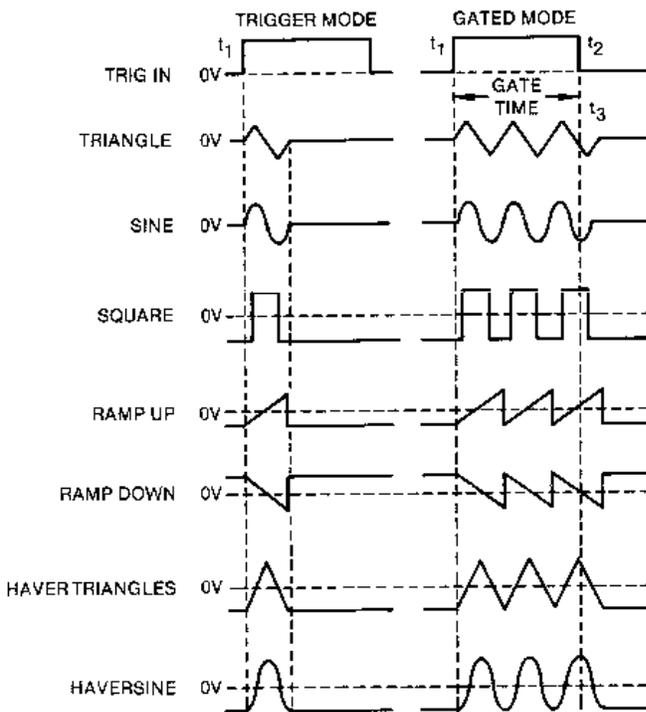

Figure 3-3. Output Waveforms
**16 AM In (600  $\Omega$ ) Connector.** This connector inputs an ac signal for amplitude modulation (AM) or for Suppressed Carrier Modulation (SCM). For AM operation, a  $\pm 5$ V input will modulate a carrier 100% (amplitude 5 Vp-p and ext AM 10 Vp-p). The AM scale factor depends on the output attenuator range. For SCM operation, the zero switch will set the carrier dc amplitude to zero volts.
**18 Trig In (TTL) Connector.** This connector accepts a programmable or negative TTL level input ( $t_1$ ) to trigger or gate the generator output as shown in figure 3-3. When triggered, the generator produces one complete cycle for each trigger input. When gated, the generator produces continuous cycles until the gate signal ( $t_2$ ) is removed. The last cycle started is always completed ( $t_3$ ). The negative-going edge of the TTL input will end gated operation.
**19 Trigger Switch.** (See figure 3-3) In the triggered mode, pressing this switch manually initiates a single cycle of waveform each time it is pressed. In the gated mode, the trigger switch gates the output on until the switch is released. The last waveform cycle started while the switch is being pressed will be completed. If Option 001 or 002 is installed, see paragraph 3.4.2.
Perform the initial checkout procedure in Section 2 for a feel of the instrument. Information concerning individual controls and connectors may be found in paragraph 3.2. Output waveforms are shown in figure 3-3.